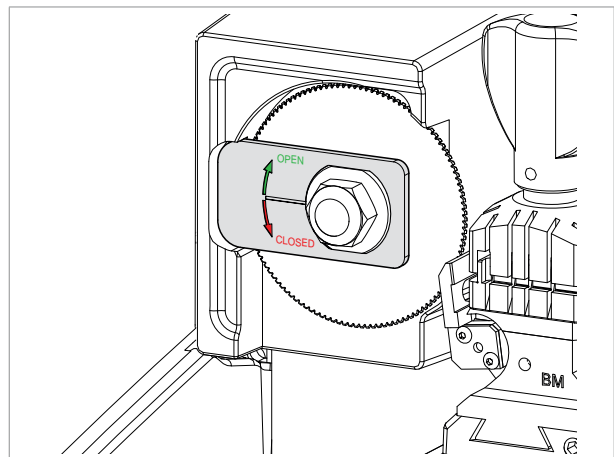

Fig. 148
- 2) Raise the protective shield (C).
- 3) Place the cutter release plate (F3) (provided) on the cutter nut, as shown in Fig. 148.